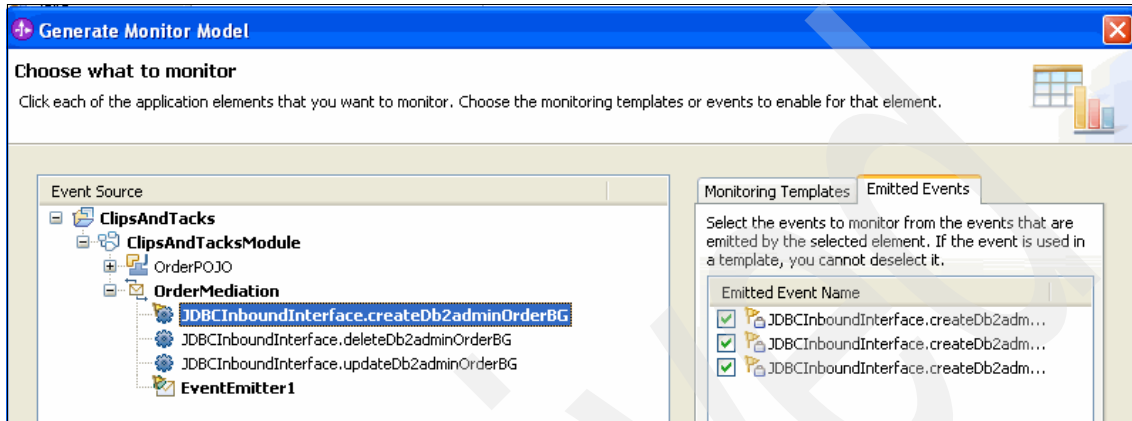

Figure 6-99 Events emitted from createDb2adminOrderBG operation
- b. Select the option to monitor all the events emitted when the createDb2adminOrderBG operation is invoked (Figure 6-99)